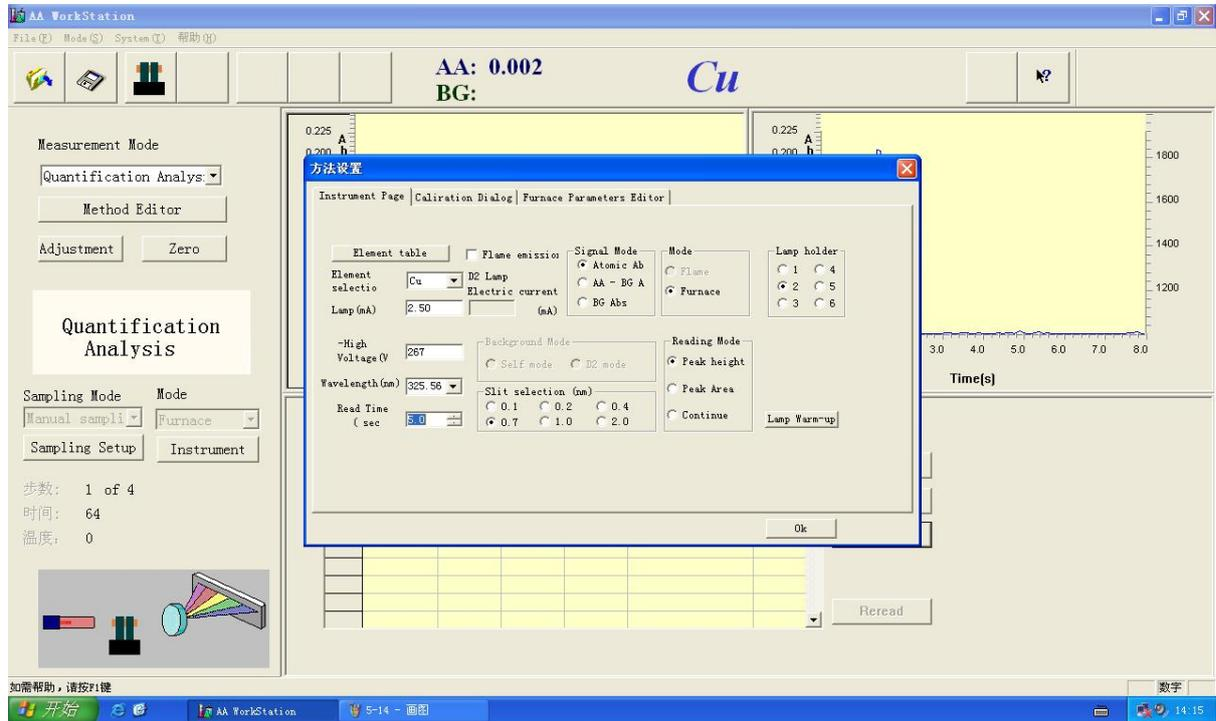

Figure 5-30a
2. Input the appropriate "Read Time" in the "Instrument Page", select appropriate "Reading Mode" (Figure 5-30a)